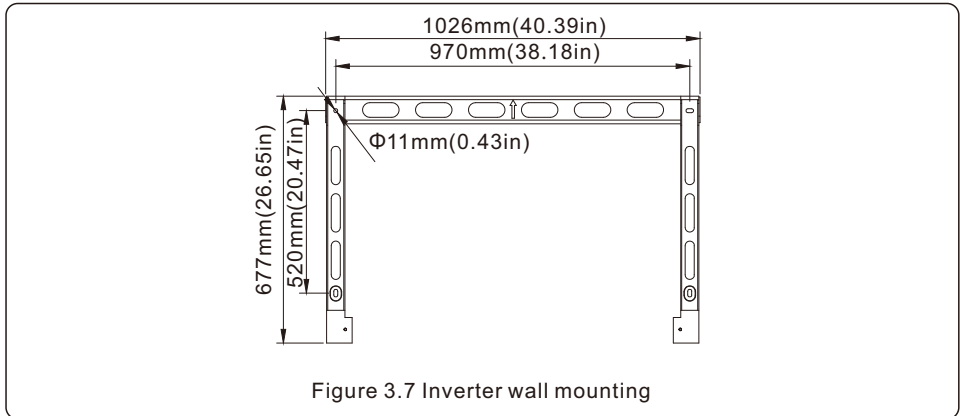

Figure 3.7 Inverter wall mounting
The inverter can be mounted to the wall or metal array racking. The mounting holes should be consistent with the size of the bracket or the dimensions shown in Figure 3.7.
1. Refer to Figure 3.7, drill holes for mounting screws based on the hole diameter of bracket using a precision drill keeping the drill perpendicular to the wall. Max depth is 3.6 in.